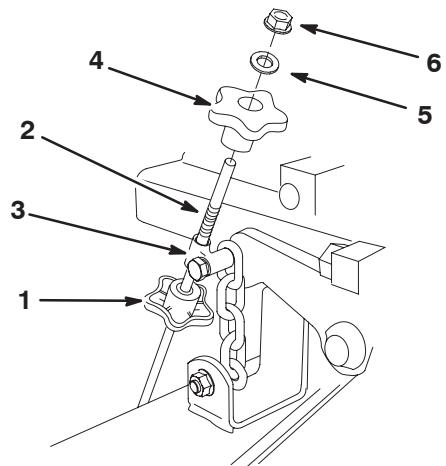

Figure 13
1. Install one knob on the threaded end of the lift rod with the hub side up as shown in Figure 13.
2. Guide the lift rod end with the inverted hub through the adjuster mount and install the another knob with the hub side down (Fig. 13).